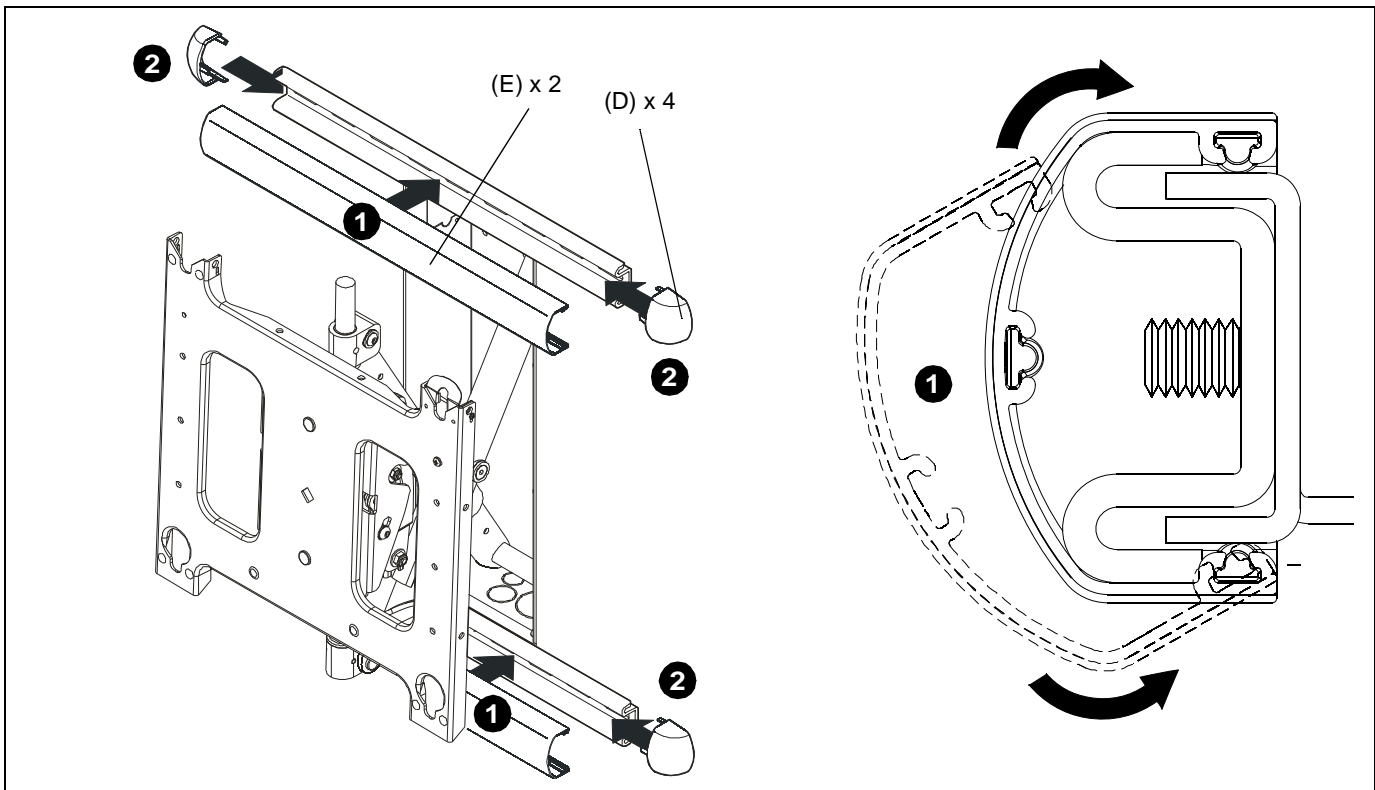

Figure 8
1. Install upper and lower wall channel covers (E) by tipping cover top down and positioning as shown in end view of figure below. (See Figure 8)
2. Tap firmly across bottom of channels to lock in place as shown in figure below. (See Figure 8)
3. Install four R.H. and L.H. end caps (D) by aligning tabs on end caps (F) with slots in wall channel covers (E) and sliding tabs in until end caps (D) are flush with wall channel covers (E). (See Figure 8)